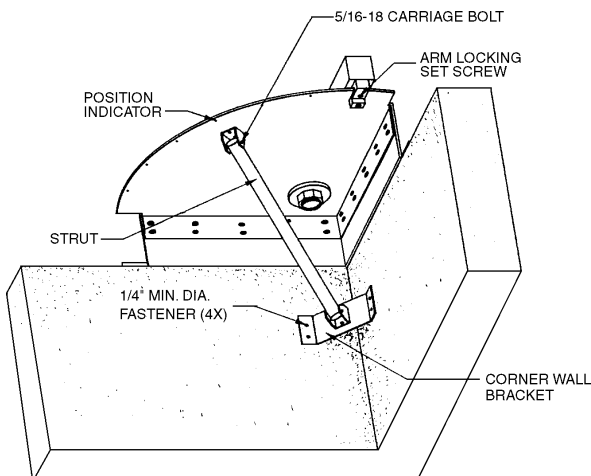

Figure 2. PP300/PP301 Installation—Bottom View
5. Attach the ST1 strut pipe to the corner mount using one of the provided 5/16-18 fasteners, lock washers and bolts (refer to Figure 2).
8. After the PP300/PP301 corner mount is attached securely to the parapet, loosen the arm locking set screw (refer to Figure 2) and rotate the arm so the opposite end is over the roof.